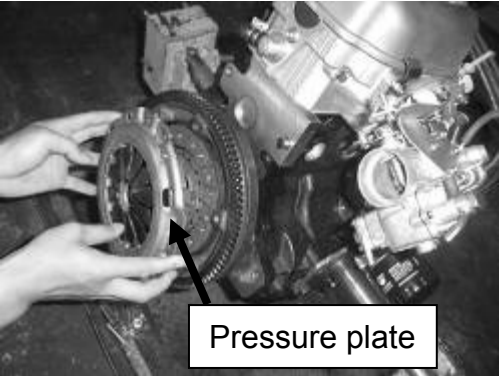

Figure 42
6. Remove the pressure plate (See Figure 42).